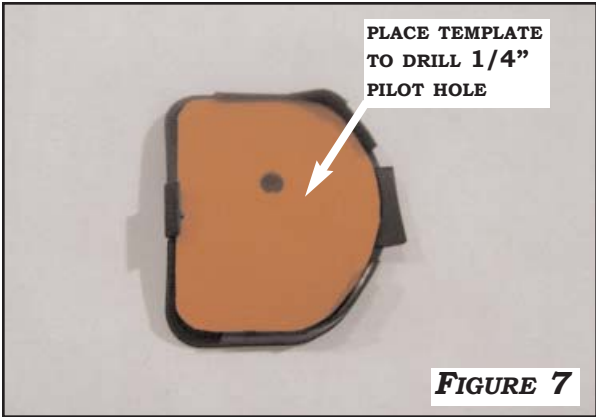

FIGURE 7
1. USE THE **SWITCH HOLE CUTTING TEMPLATE** ON PAGE 10 TO PLACE THE TEMPLATE ON THE INSIDE OF THE RIGHT SIDE TRIM PANEL. CUT OUT A **1/4"** PILOT HOLE AS SHOWN IN **FIGURE 7**. USE A **1 1/2"** HOLE SAW TO DRILL THE HOLE LOCATION ON THE TRIM PANEL. **FIGURE 9**.